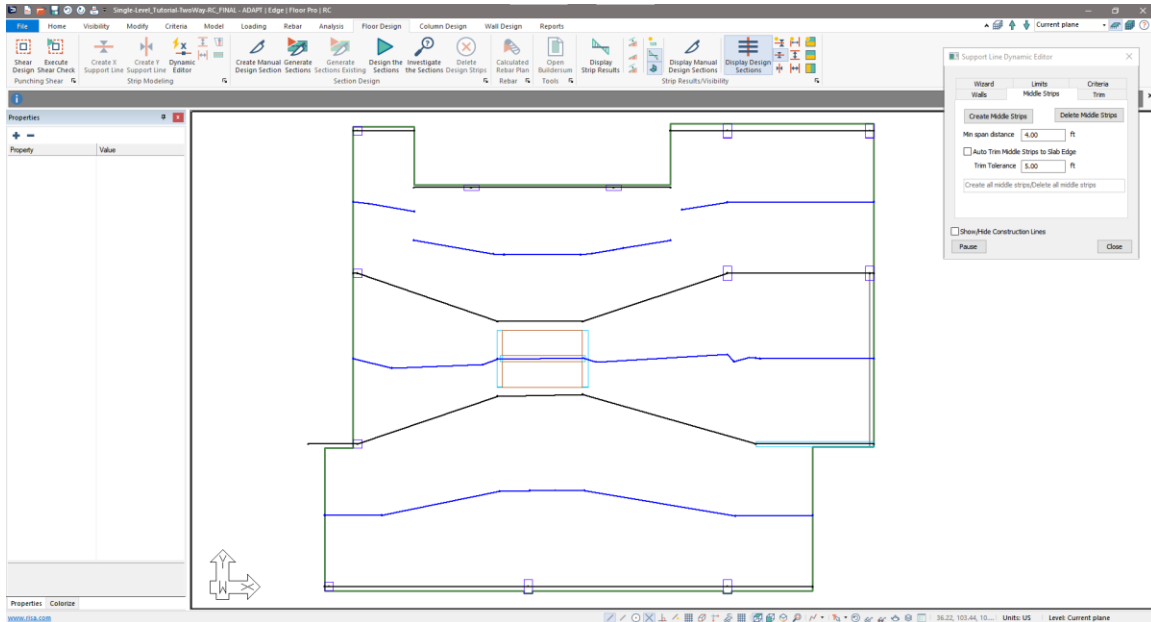

Figure 6-20
- Click Create Middle Strips button. The user should now see a screen similar to **Figure 6-20**, we can see the southernmost middle strip now extends to the slab edge.